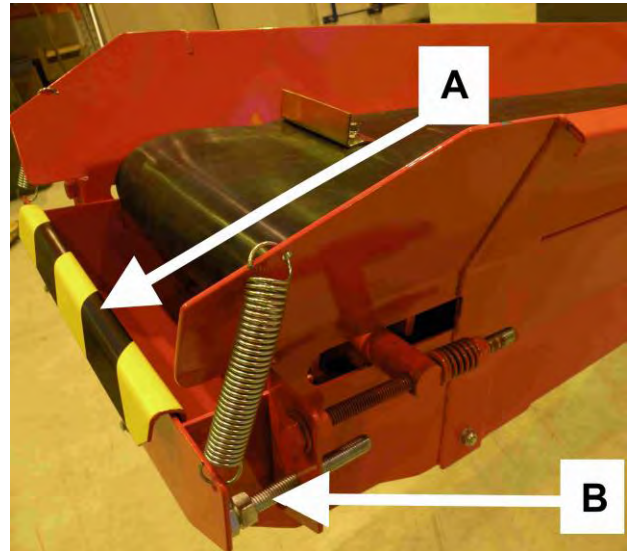

Figure 19. Adjustment of the debris removal device
4. Start the splitting process with the activation pedal (G in Figure 19).